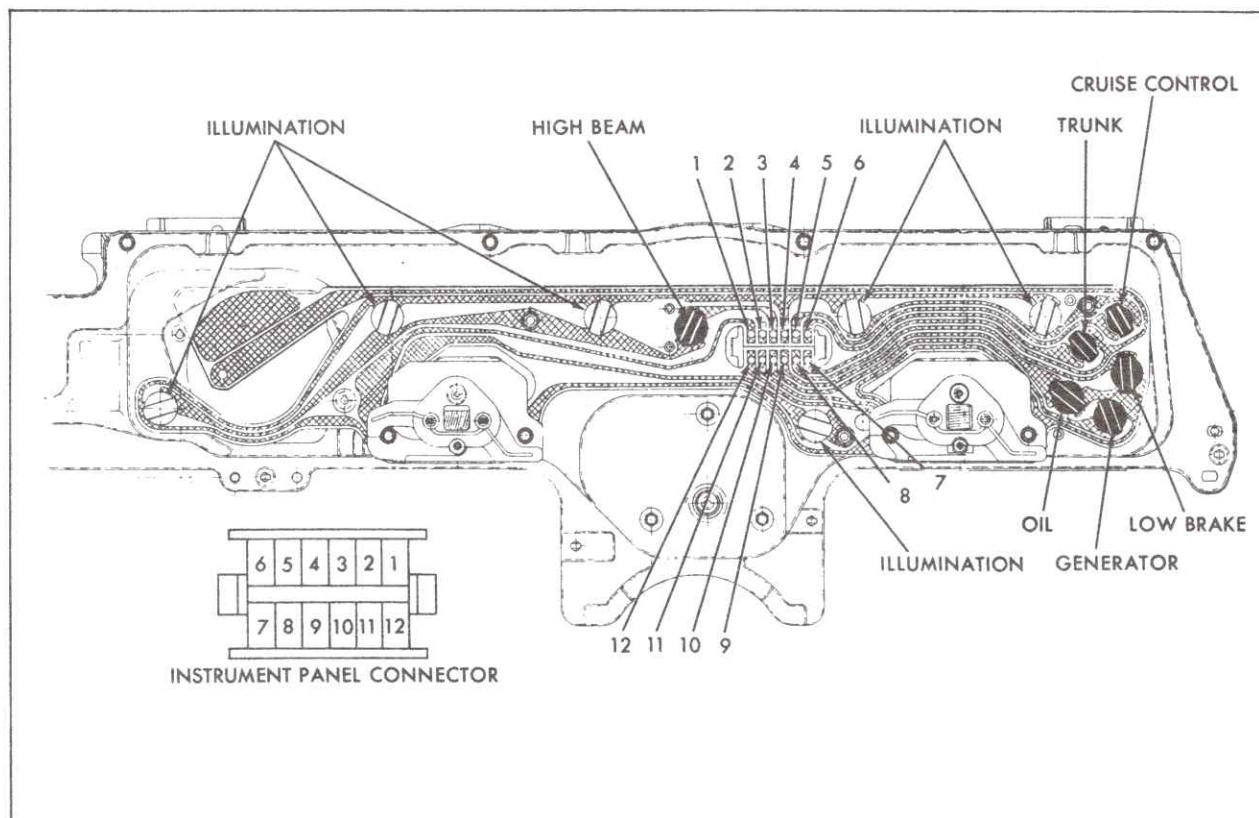

Fig. 12-17 Printed Circuit
2. Remove wedge base socket bulb for affected circuit, Fig. 12-17 and replace if necessary.
3. Use the following table to identify the circuit wiring color code and perform preliminary steps needed to check the continuity, Fig. 12-17.
3. Use the following table to identify the wiring color code of the circuit and perform the necessary preliminary steps needed to check the circuit for shorts, Fig. 12-17.
3. Examine the printed circuit affected for signs of damage using Fig. 12-17. If necessary, a self-powered test lamp may be used to check the continuity of these circuits. Check both the feed or hot circuit and the ground, switch or sender feeds for the affected circuit. If defective, the printed circuit must be replaced as described in Note 41.